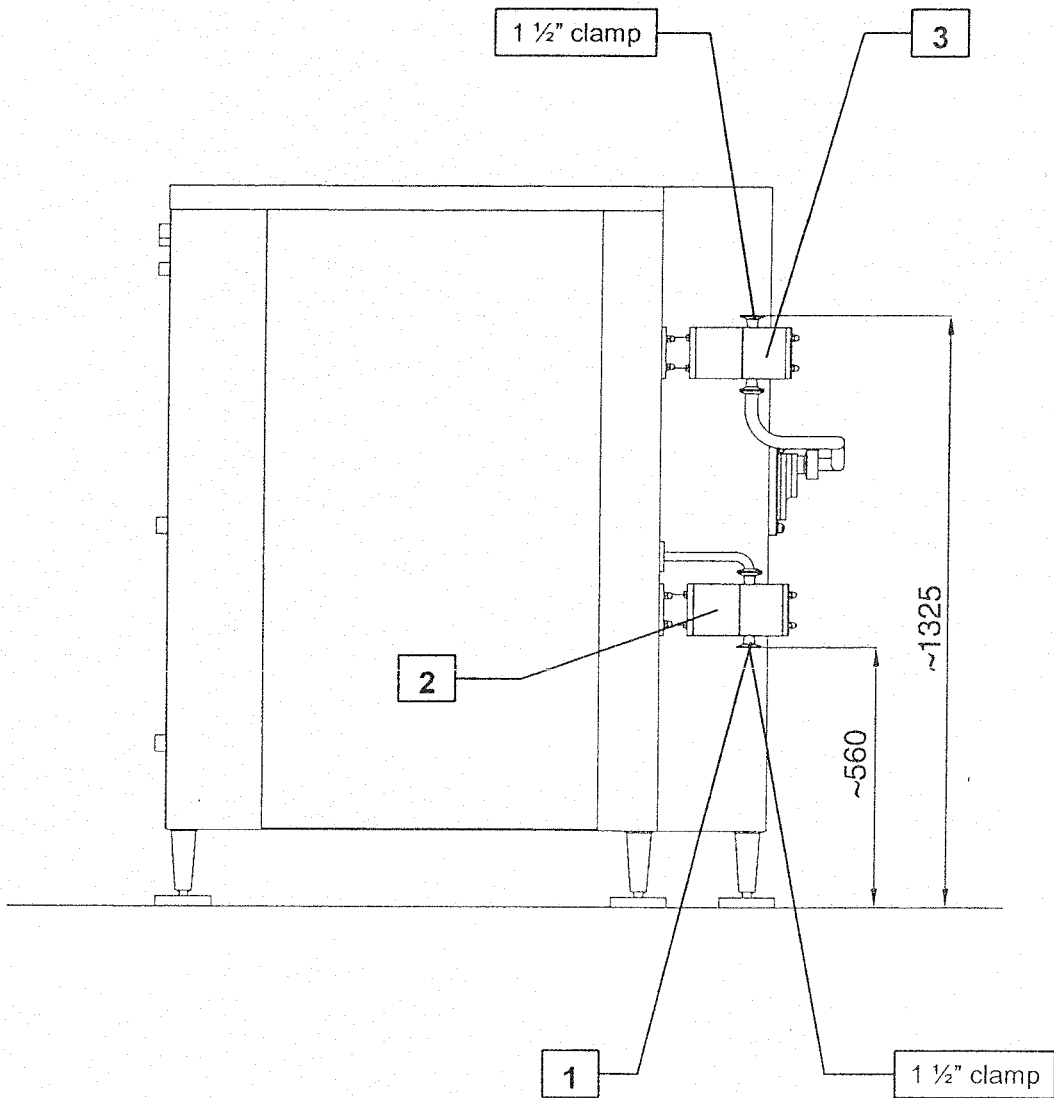

Fig. 4-4 – Ice cream inlet and outlet connection
Carry out the connection of the mixture sending pipeline (supply on customer charge) to the lower attachment (Fig. 4-4 pos. 1) of the inlet pump (Fig. 4-4 pos. 2).
**NOTE:** Make sure that the mixture supply vats are at a higher level than that of the connection with the freezer, or check that they have been equipped with a proper sending pump to guarantee the sufficient head on the inlet pump (Fig. 4-4 pos. 2).
Connect the ice cream outlet pump (Fig. 4-4 pos. 3) with a stiff pipeline, which must be as short as possible and whose diameter must be proportional to the machine capacity and must not be in any way lower than that of the attachment (1 ½" clamp).